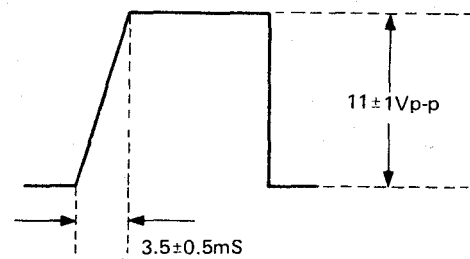

Figure 70.
2. Observe the output of TP-710 on oscilloscope (internal trigger), and check its values are as shown in Fig. 70.